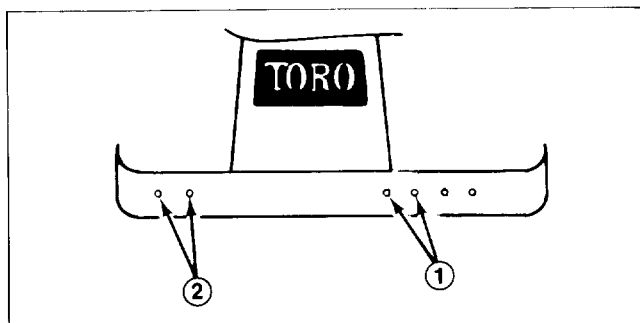

Figure 5
**Note:** Mounting brackets must be installed in different locations, depending on the cutter deck or options (Fig. 5).